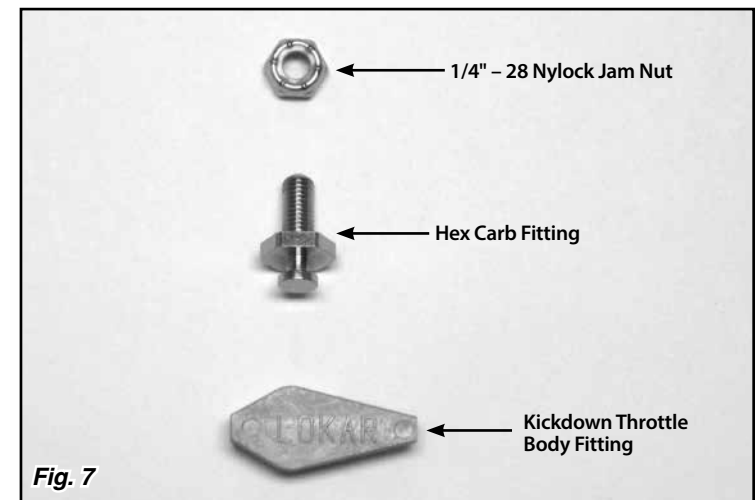

Fig. 7
Step 9: The tear drop will be attached to the throttle arm by the hex carb fitting. Separate the hex carb fitting from the kickdown throttle body fitting as shown in Fig. 7. Install the tear drop with the hex carb fitting and the 1/4"-28 nylock jam nut onto the throttle arm. Hook the springs to the tear drop and tighten the nylock jam nut. **Fig. 8** Then, back the nut off just enough so that the tear drop can rotate freely.